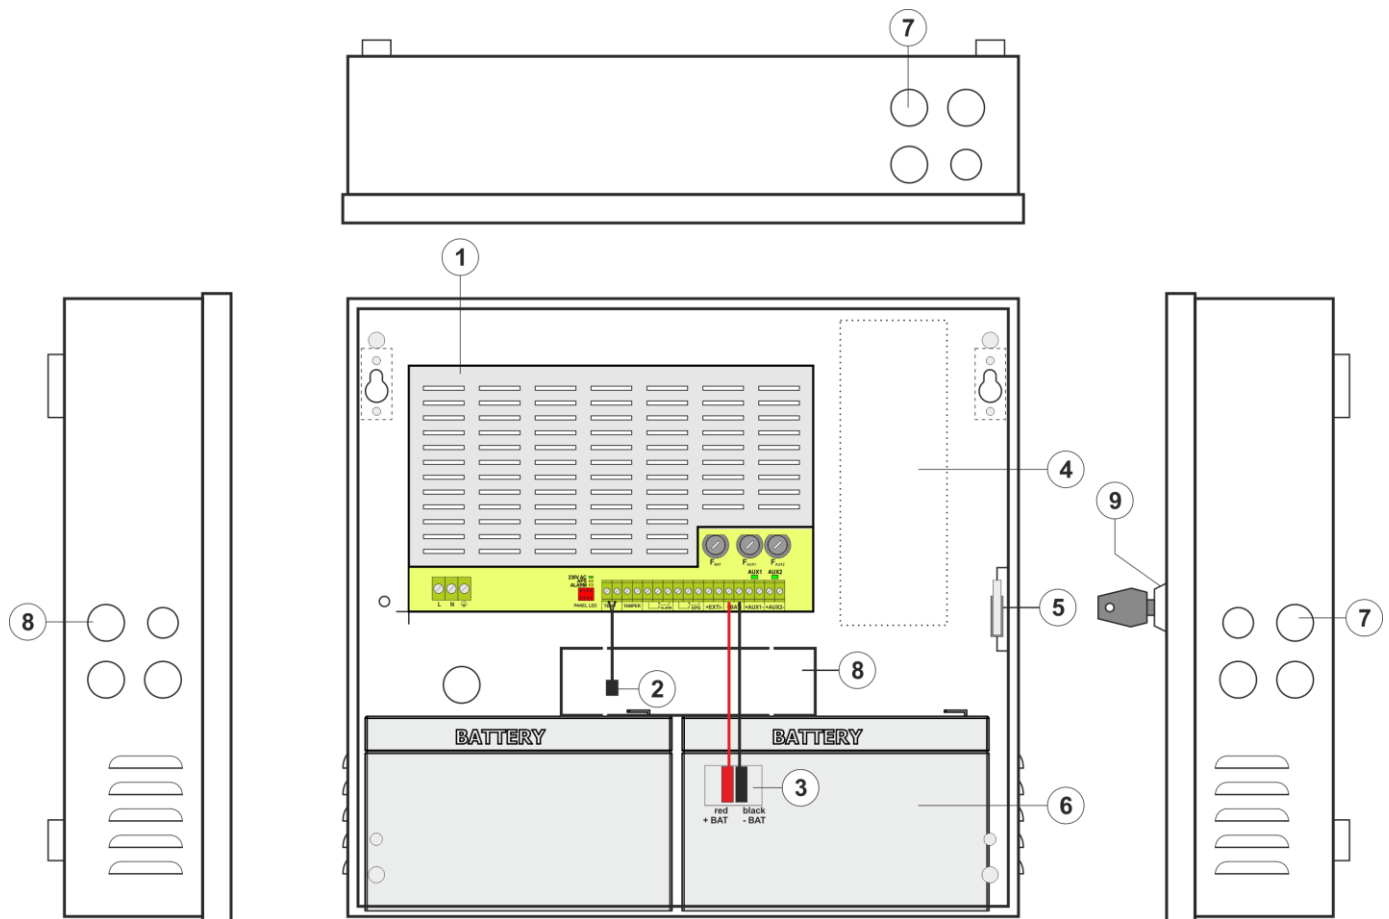

Fig. 3. The view of the power supply based on the EN54C-2A7.
**Table 2. Elements of the PSU (Fig. 3).**
5. Install the batteries in a designated area of the enclosure (see Fig. 3). Connect the batteries with the PSU paying special attention to the correct polarity. Batteries must be connected in series using the special cable (included). Attach the temperature sensor to any of the batteries with mounting tape (included). Place the temperature sensor between the batteries.